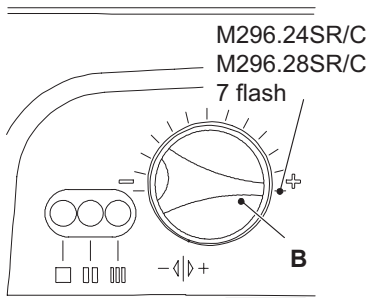

Figure 8.10
At this step it is possible to visualize the current setting by keeping the reset button D pressed for more than 5 seconds. The lamps F will flash a number of times corresponding to the setting Figure 8.10 (once for M296.24SR/C, M296.28SR/C).
- 12 To change the setting turn the knob B on a position corresponding to the boiler model (Figure 8.10).